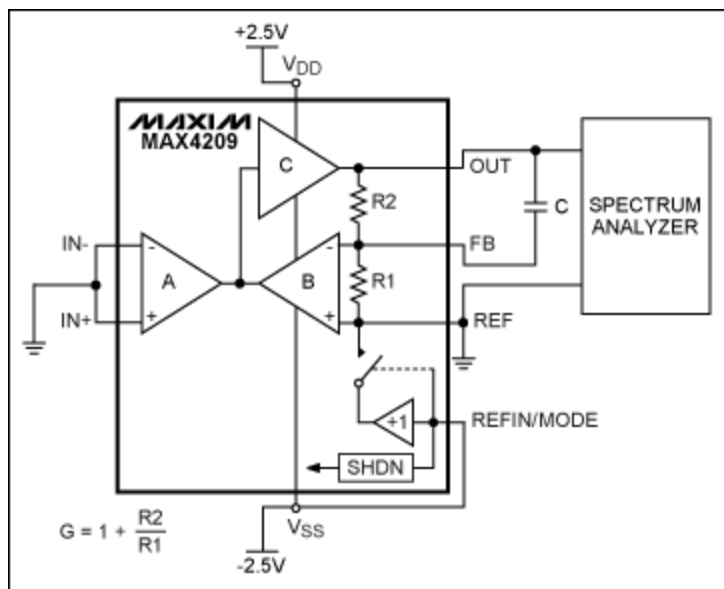

Figure 4. Circuit used to measure the MAX4209H's noise.
The experiment described in this application note was conducted with the MAX4209H, which has a fixed gain of 100. This amplifier's signal bandwidth is 7.5kHz; f_C is approximately 45kHz. A simple, 1st-order lowpass filter was implemented by placing an external capacitor (C) between the amplifier's OUT and FB pins and parallel to the internal resistor (R2). The pole of this filter is determined by C and R2. R2 is 99k Ω for the MAX4209H. The noise measurements were taken using the circuit of **Figure 4**.